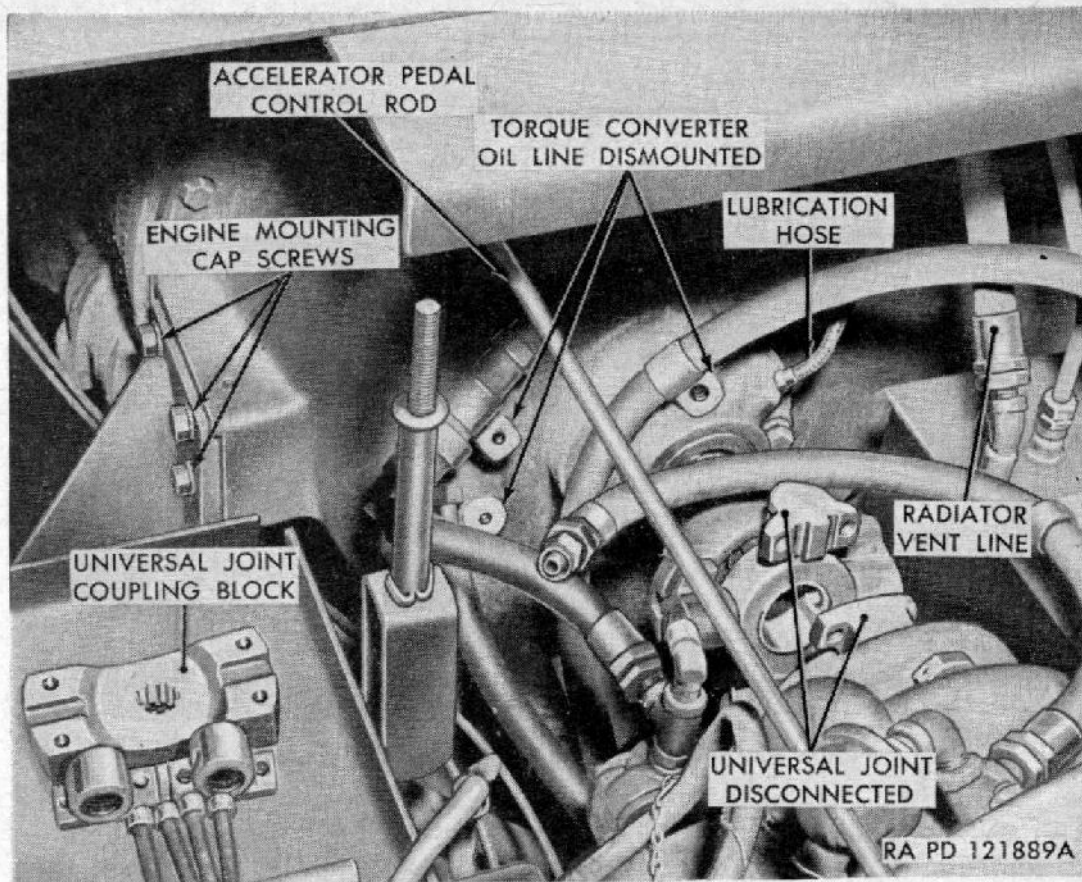
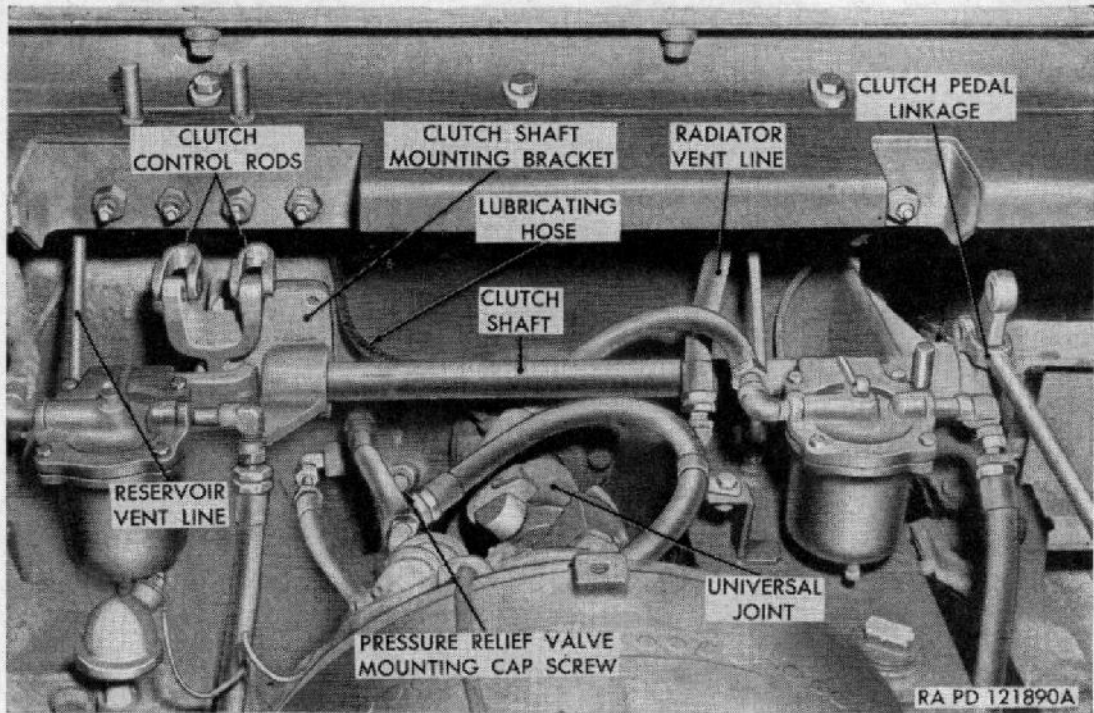
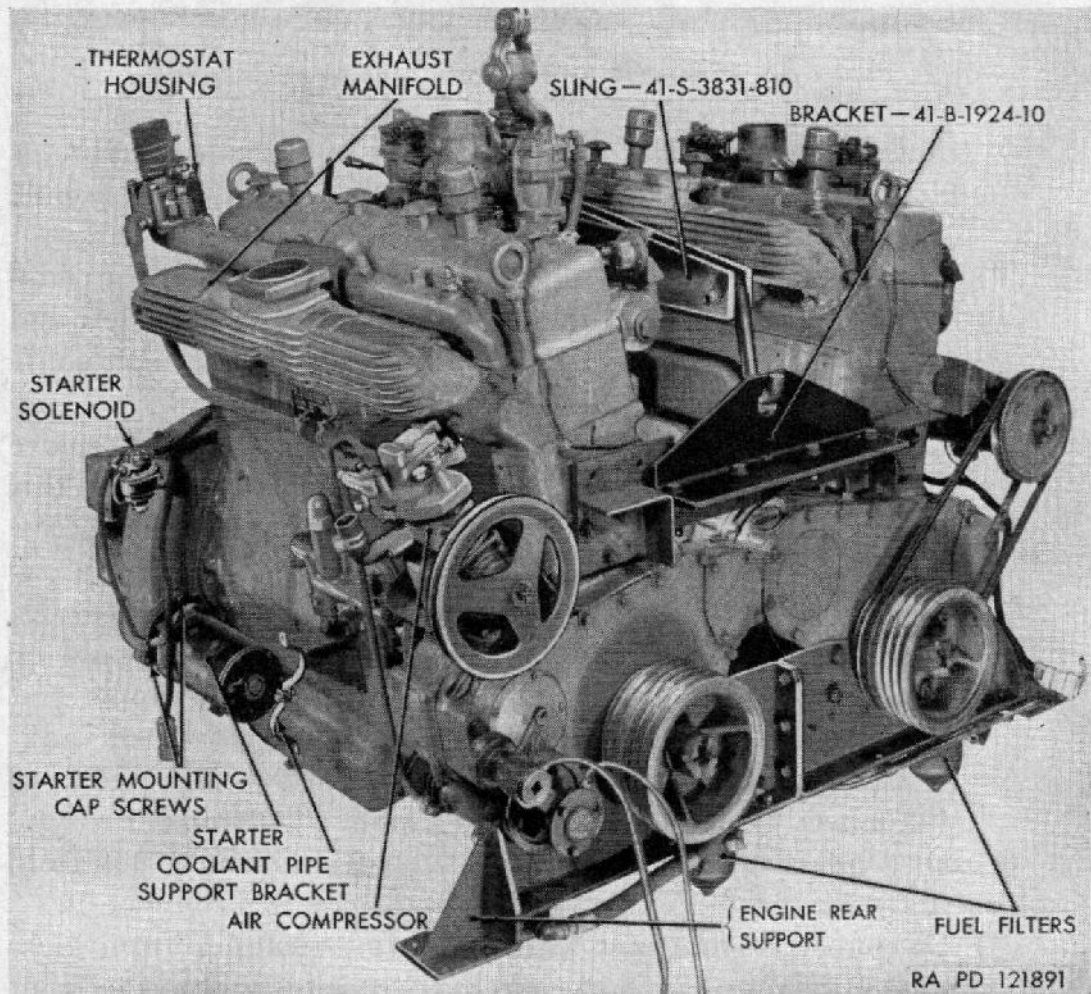
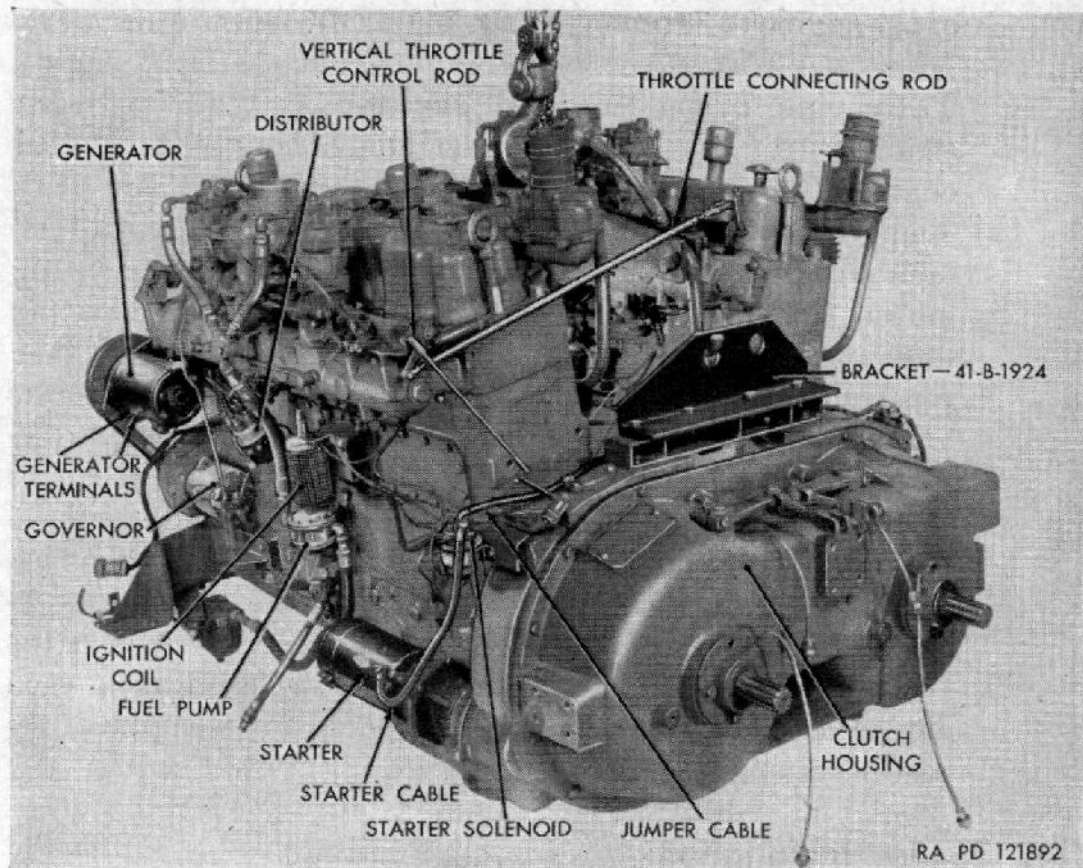

Figure 41. Connections at right front of engine.
Figure 42. Connections at left front of engine.
Figure 43. Left rear view of engines.
Figure 44. Right front view of engine.
- (1) Remove yoke pins from front end of clutch control rods connected to the clutch release levers and clutch shaft (fig. 42).
- (2) Remove jam nuts and pull ends of the five lubricating hoses out of the rear floor plate support.
- (3) Remove cap screws attaching clamps to the clutch housing.
- (4) Remove four cap screws to disconnect each of the two clutch shaft mounting brackets from the clutch housing (fig. 42).
- (5) Remove cap screws from torque converter pressure relief valve supporting clamp (fig. 42).
- (6) Remove cap screw that attaches clip on primer fuel pipe to choke and engine shut-off cable support of left hand engine. Remove the two cap screws from coolant pipe support (fig. 43)
- (7) Remove pin from bellcrank and rear end of accelerator pedal control rod (fig. 41). Remove the pin to disconnect left end of throttle shaft connecting link from lever on throttle shaft on intake manifold of the left hand engine.
- (8) Remove four cap screws on clutch drive shafts and remove universal joint coupling block (fig. 41). Removing this block will aid when installing engines because it is not necessary to line up the splines.
- (1) Disconnect positive battery cable from starter solenoid on the right hand engine (fig. 44). Disconnect the upper end of choke and engine shut-off control cables from bellcranks at rear of intake manifold. Remove the two cap screws to disconnect cable support bracket from manifold.
- (4) Disconnect engine oil filter hose near the fuel pump. Disconnect oil hoses at base of filters; disconnect oil pipes below electrical junction box at the rear of engine.
- (5) Unscrew retaining nut and pull end of engine wiring harness from bottom of electrical junction box (fig. 46). Disconnect the two wires from generator terminals (fig. 44).
- (1) The engine lifter assembly consists of front bracket 41-B-1924 (fig. 44), rear bracket 41-B-1924-10 (fig. 43), and a
lifting sling 41-S-3831-810 (fig. 43). Bolt the front bracket to the fan drive shaft support connected to the two flywheel housings, using the four bolts removed from the fan drive shaft bearing brackets.
(fig. 41) and the eight cap screws and two bolts that attach engine rear supports to hull (fig. 27). Hoist engines and work them toward rear of tractor until clutch shafts slip out of universal joints.
- (1) Disconnect jumper cable from terminal of starter solenoid of the engine to be removed (fig. 44). Disconnect water drain hose from inlet elbow of water pump of the right engine. Tilt engines to one side until engine to be removed stands straight up. Place blocks under clutch housing and other engine.
leading from left hand engine to pipes at bottom of rear support of right hand engine. Install brackets with assembled throttle shafts and links on each engine on front ends of intake manifolds with two cap screws and lock washers (fig. 52). Connect link rods to choke valve and engine shut-off air valve levers. Make sure all control linkage is attached securely and is not damaged. Connect vertical throttle control rod to lever at front end of throttle shaft of right engine (fig. 44). Install and connect jumper cable to rear terminals of starter solenoids (fig. 44), and attach clips on this cable to timing cover cap screws.
- (1) *Install engine lifting brackets.* Install front bracket 41-B-1924 and rear bracket 41-B-1924-10 to the fan drive shaft supports (par. 104k).
- (2) *Set engines in tractor.* Using engine lifting sling 41-S-3831-810 (fig. 43) and hoist, raise engines high enough to swing them over hull. Lower them in hull until the fuel filters are within an inch or two of the floor, then maneuver them forward carefully to miss parts attached to the sides of the hull. After engines are moved forward far enough, lower them so the propeller shaft universal joints will aline (fig. 41). Install universal joint coupling block, yoke cross bearing, and four cap screws. Tighten cap screws and secure with locking wire.
- (3) *Attach engines to support.* Install four engine mounting cap screws (fig. 41) and lock washers through each engine front support and into sides of clutch housing. Install shims, if necessary, between center of rear engine support and hull (as many as can be crowded in), and attach rear engine support (fig. 27) to hull with four cap screws and lock washers at each end and two bolts with lock washers at center support. Remove engine lifting sling and brackets. Install oil level (bayonet) gages in sides of crankcase (fig. 34).
Connect wires to generator terminals (fig. 44) (No. 41 cable to outer terminal, No. 42 cable to lower terminal (fig. 98)). Insert plug of engine wiring harness into bottom of electrical junction box (fig. 27) and screw retainer nut onto outlet. Connect oil hoses and pipes as follows:
- (5) Connect battery cable to terminal of the starter solenoid of the right hand engine (fig. 44).
d. Make Connections at Front of Engines. Install the accelerator pedal control rod to connect the accelerator pedals of the two engines (fig. 41). Secure yoke pins with cotter pins. Connect rear end of throttle control rod leading from accelerator and hand throttle to lever of bellcrank on clutch housing with yoke pin and cotter pin. Install the coolant pipe that connects to the water pump and radiator. Coat inside surfaces of ends of hoses with shellac. Tighten hose clamps at each end and install clamp on coolant pipe support bracket (fig. 43) at center of cylinder block with two bolts and lock washers. Install cap screws to attach torque converter pressure relief valves to the clutch housing (fig. 42). Attach clamp of the converter oil hoses with a cap screw to clutch housing bearing retainer. Connect each of the two clutch shaft mounting brackets to the clutch housing with four cap screws with lock washers (fig. 42). Insert ends of the four clutch
shaft and release bearings and the winch drive shaft bearing lubricating tubes through rear floor plate support and install jam nuts to secure them. Install yoke pins and cotter pins to connect clutch control rods on clutch release levers to levers on clutch control shaft (fig. 42). Connect clutch shaft universal joint with four cap screws (fig. 42).
- (6) *Fuel pumps.* Each engine has a fuel pump mounted on the lower right side of the cylinder block (fig. 44). The purpose of these pumps is to draw fuel from the fuel supply tank and pump it into the carburetors as required. The pumps are operated by rocker arms in the pumps contacting eccentrics on the engine camshafts. Normal fuel pressure is from 3½ to 4 psi.